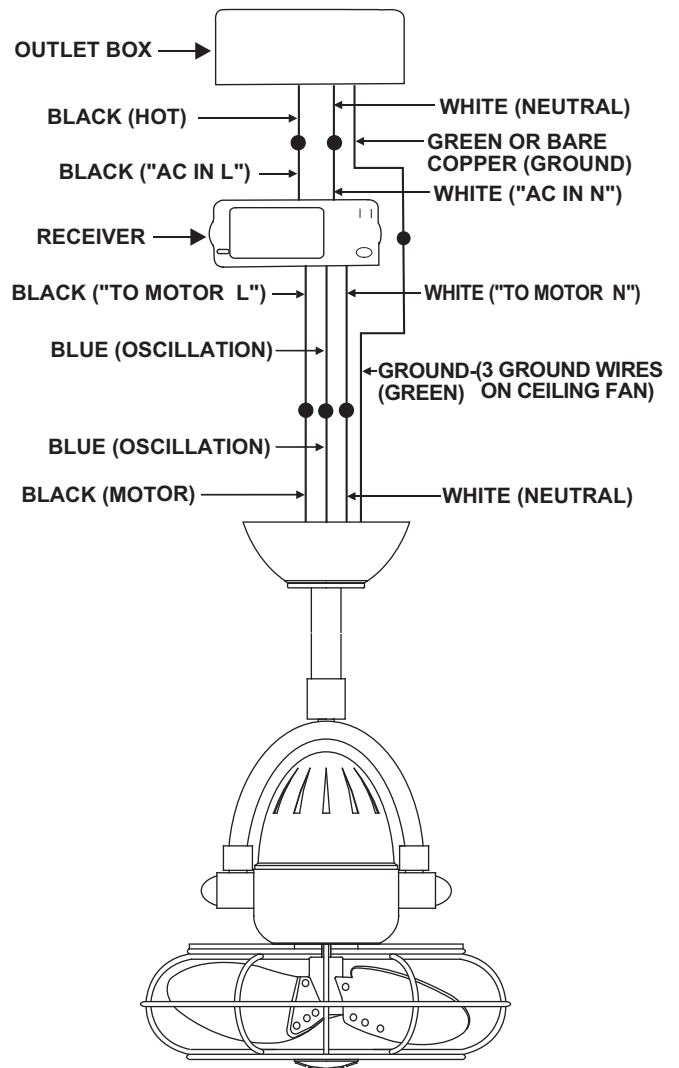

Figure 11
C. Connect the BLUE wire from the fan to the BLUE wire marked "oscillation" from the Receiver. Proceed to secure all wire connections with the plastic wire nuts provided. (Fig. 11)
B. Connect the BLACK wire (Hot) from the outlet box to the BLACK wire marked "AC in L" from the receiver. Secure all wire connections with the plastic wire nuts provided. (Fig. 11)
4. If your outlet box has a GROUND wire (Green or Bare Copper) connect this wire to the Hanger Ball and Hanger Bracket Ground wires. If your outlet box does not have a Ground Wire, then connect the Hanger Ball and Hanger Bracket Ground Wires together. Secure wire connection with the plastic wire nut provided. (Fig. 11)